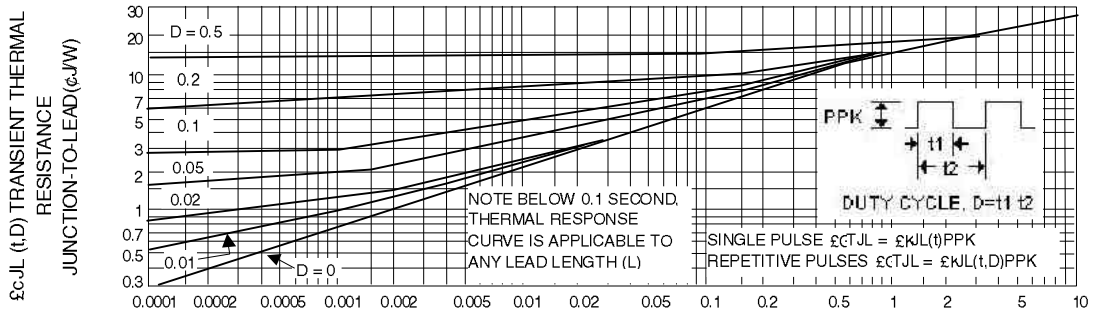
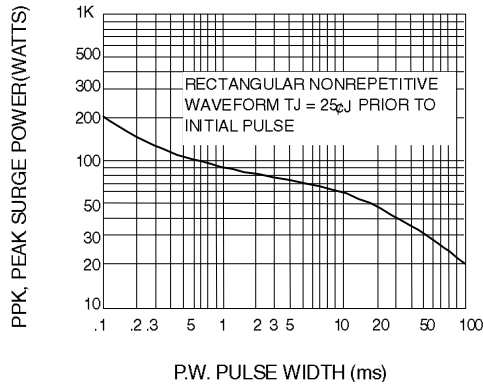
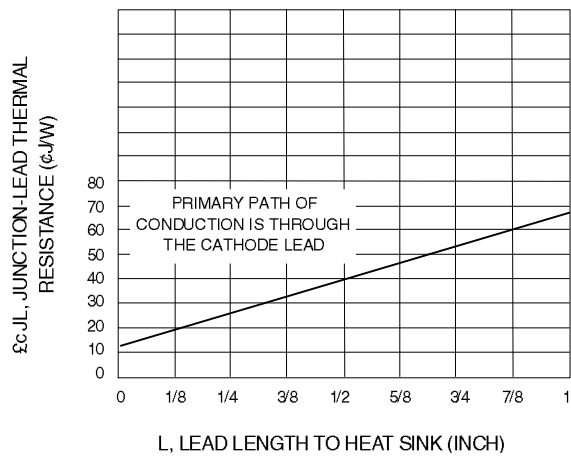

Fig. 2-TYPICAL THERMAL RESPONSE L,
Fig. 3-MAXIMUM SURGE POWER
Fig. 10-TYPICAL THERMAL RESISTANCE
4. SURGE CURRENT (Ir) NON-REPETITIVE - The rating listed in the electrical characteristics table is maximum peak, non-repetitive, reverse surge current of 1/2 square wave or equivalent sine wave pulse of 1/120 second duration superimposed on the test current, IZT, per JEDEC standards, however, actual device capability is as described in Figure 3.
$\theta_{GT_{JL}}$  is the increase in junction temperature above the lead temperature and may be found from Figure 2 for a train of power pulses or from Figure 10 for dc power.
Data of Figure 2 should not be used to compute surge capability. Surge limitations are given in Figure 3. They are lower than would be expected by considering only junction temperature, as current crowding effects cause temperatures to be extremely high in small spots resulting in device degradation should the limits of Figure 3 be exceeded.